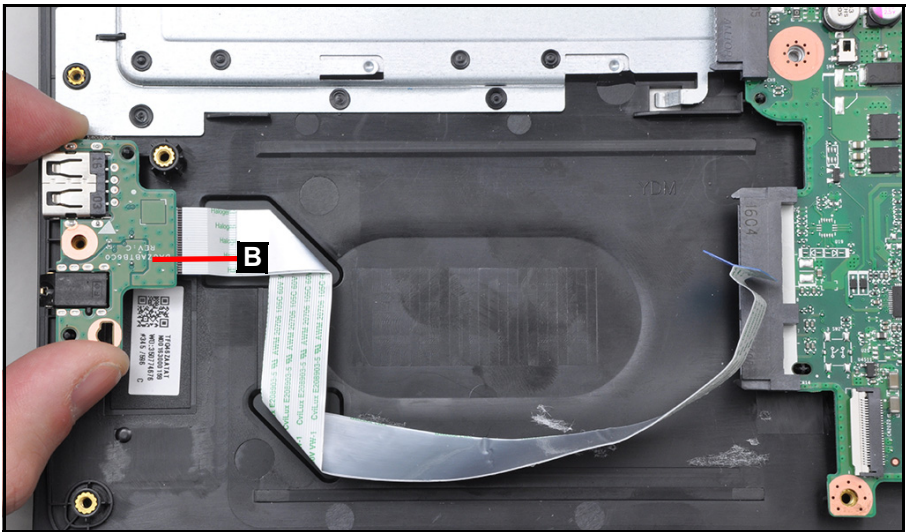

Figure 3-29. I/O Board Removal
5. Remove the I/O board (B) from the top assembly (Figure 3-29).